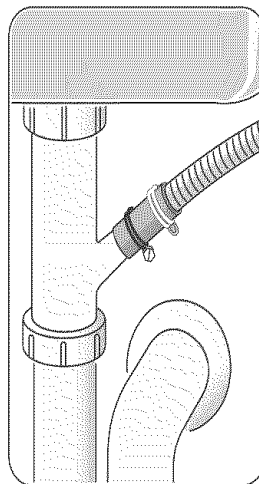
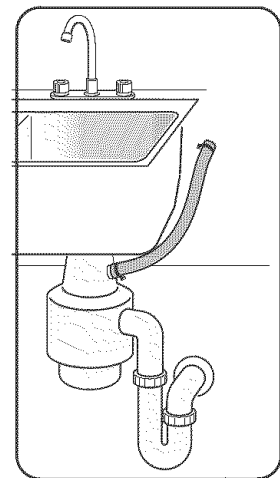

Figure 18
Figure 19
- 1) Directly to the undersink dishwasher drain connection, as shown in Figure 18.
- 2) Directly to a disposer dishwasher drain connection, as shown in Figure 19.
NOTE: If the dishwasher drain hose is connected directly to either an undersink dishwasher drain connection, as shown in Figure 18, or to a disposer dishwasher drain connection, as shown in Figure 19, form a curve in the dishwasher drain hose and secure a portion of the curve at least 20" (508mm) above the cabinet floor.